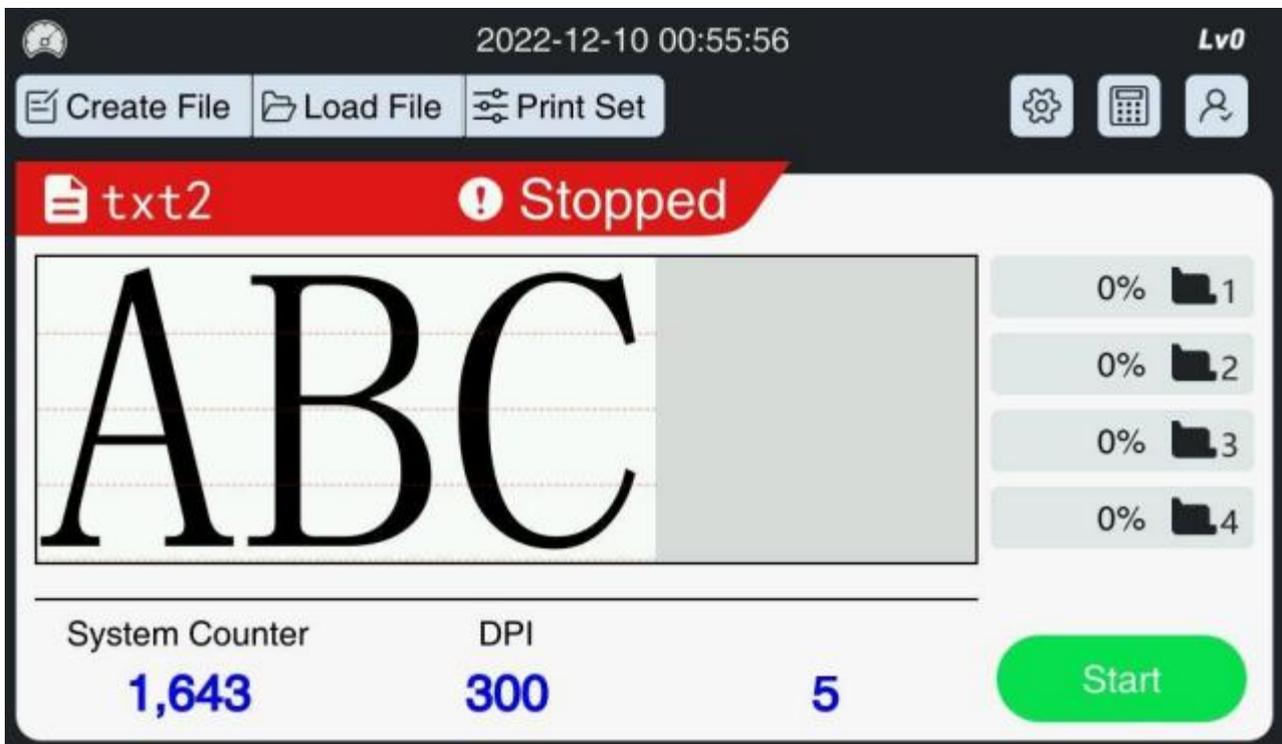

Figure 7-10
2. Clicking the "Print" button, the system will enter the file saving interface; entering the file name "txt2", clicking "Save", the system will return to the main interface and load the "txt2" file. As shown in Figure 7-10.